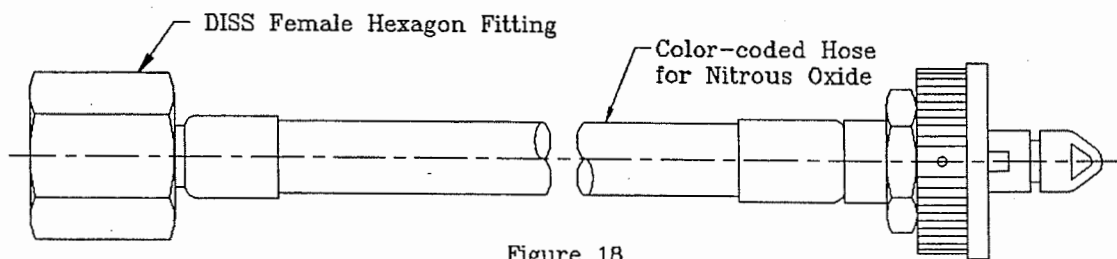
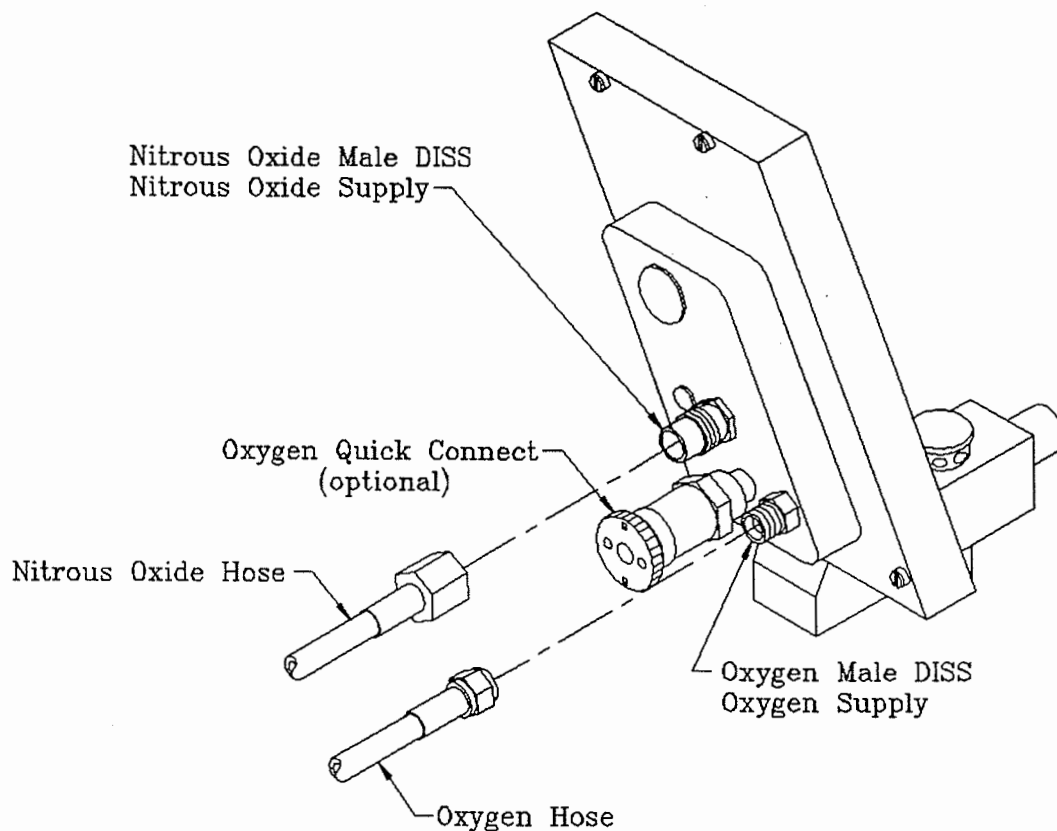

Figure 18
Figure 19
1. Connect DISS female hexagon fitting (see fig 18) of the nitrous oxide hose to male DISS fitting on the back of the analgesia head (see fig 19). The fitting is labeled N₂O. Accomplish this connection by screwing female hexagon fitting onto the male threaded fitting. Hand tighten and **then** finish tighten with 7/8 open end wrench just enough to prevent leaks. **Do not over tighten.**
2. In the same fashion, connect the oxygen hose to the male oxygen fitting (see fig 19). Finish tightening the female hexagon fitting with an 11/16 open end wrench just enough to prevent leaks. **Do not over tighten.**
These hoses are designed to be used with portable units or DISS outlet stations. Connection to the cylinder mount will be made in the same manner as in Figures 19 & 22. Hoses are included with yoke blocks.